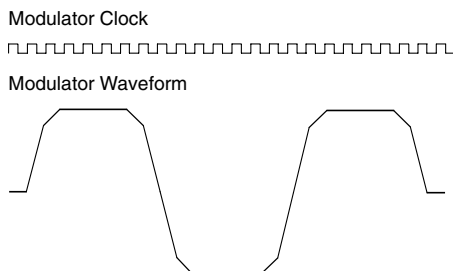
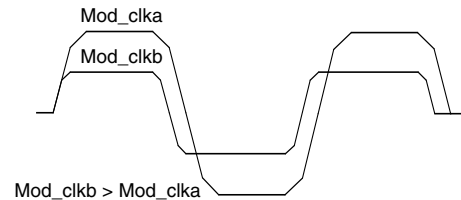

Figure 19. Modulator Waveform and Clock
Figure 20. Two Different Modulator Clock Setting
The modulator waveform is created by charging and discharging a capacitor. A modulator clock controls the timing, as shown in Figure 19. For every rise-and fall edge, 4 clock periods are being used. The charging current during these 4 clock periods are not equal, this is to reduce the high frequency components in the waveform, which in turn will narrow the frequency spectrum.
where  $f_{\text{MOD\_CLK}}$  is the modulator clock shown in Figure 19,  $f_{\text{XCO}}$  is the crystal oscillator frequency Refclk\_K is a 6 bit number and Mod\_clkS is a 3 bit number. Mod\_clkS can be set to a value between 0 and 7. The modulator clock frequency should be set according to the bit rate and shaping.
A  $f_{\text{MOD\_CLK}}$  of 8 times the bit rate (as in Figure 20) corresponds to a signal filtered in a gaussian filter with a Bandwidth (Period-product (BT)) of 1. When BT is increased, the waveform will be less filtered. Minimum BT is 1 (Mod\_clk is 8 times the bitrate). Figure 20 shows two waveforms with BT=1 and BT=2, i.e. the Mod\_clk is 8 and 16 times higher than the bit rate. When changing the BT factor, the charge-and discharge times will also be changed, and therefore the frequency deviation, as shown in Figure 19.